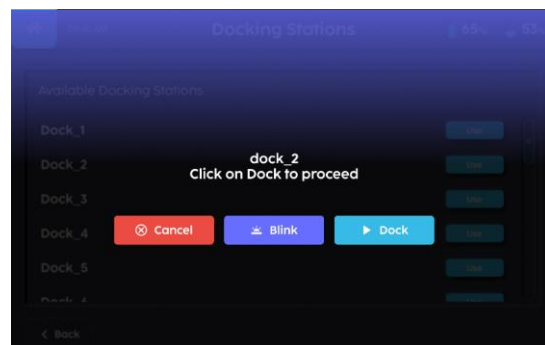

Fig. 4
5. Select 'Dock' to start the docking sequence (Fig 4).